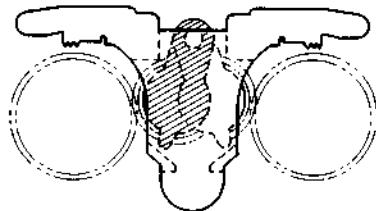

Fig. 5-6
b. The slide brake at top position (Refer to Fig. 5-6)